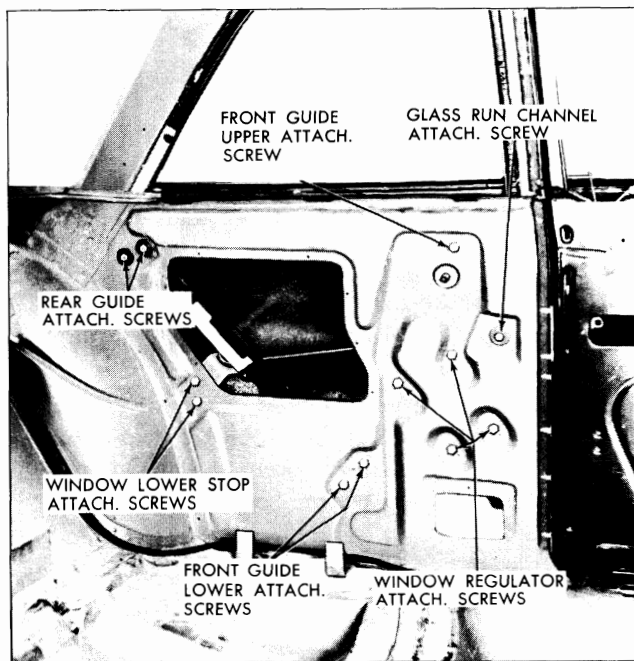

Fig. 4-6 Rear Quarter Hardware - 11 Electric Style
2. Remove access hole cover from inner panel. Loosen window front guide upper attaching screw. Remove window rear guide attaching screws and remove guide (Fig. 4-6).
The upper front corner of the rear quarter window should seat properly in the front glass run channel through the complete window lowering and raising cycle. To accomplish this, loosen the front and rear guide attaching screws (Fig. 4-6); then adjust the front guide forward and the rear guide upward and forward and retighten the attaching screws.
2. Remove rear quarter window glass run channel attaching screw (Fig. 4-6). Carefully disengage glass run channel retainers from lock pillar and side roof rail and remove run channel.
3. Remove front guide upper and lower attaching screws (Fig. 4-6). Disengage guide from roller on window lower sash channel; move front guide rearward between panels sufficiently to allow upper end of guide to be started out through large access hole; then remove guide.
3. Remove rear guide attaching screws (Fig. 4-6).
2. Remove access hole cover from inner panel. Remove front guide upper attaching screw and glass run channel attaching screw (Fig. 4-6).
5. Remove window regulator attaching screws (Fig. 4-6). Disengage regulator arm roller from window lower sash channel cam and remove regulator assembly through large access hole.